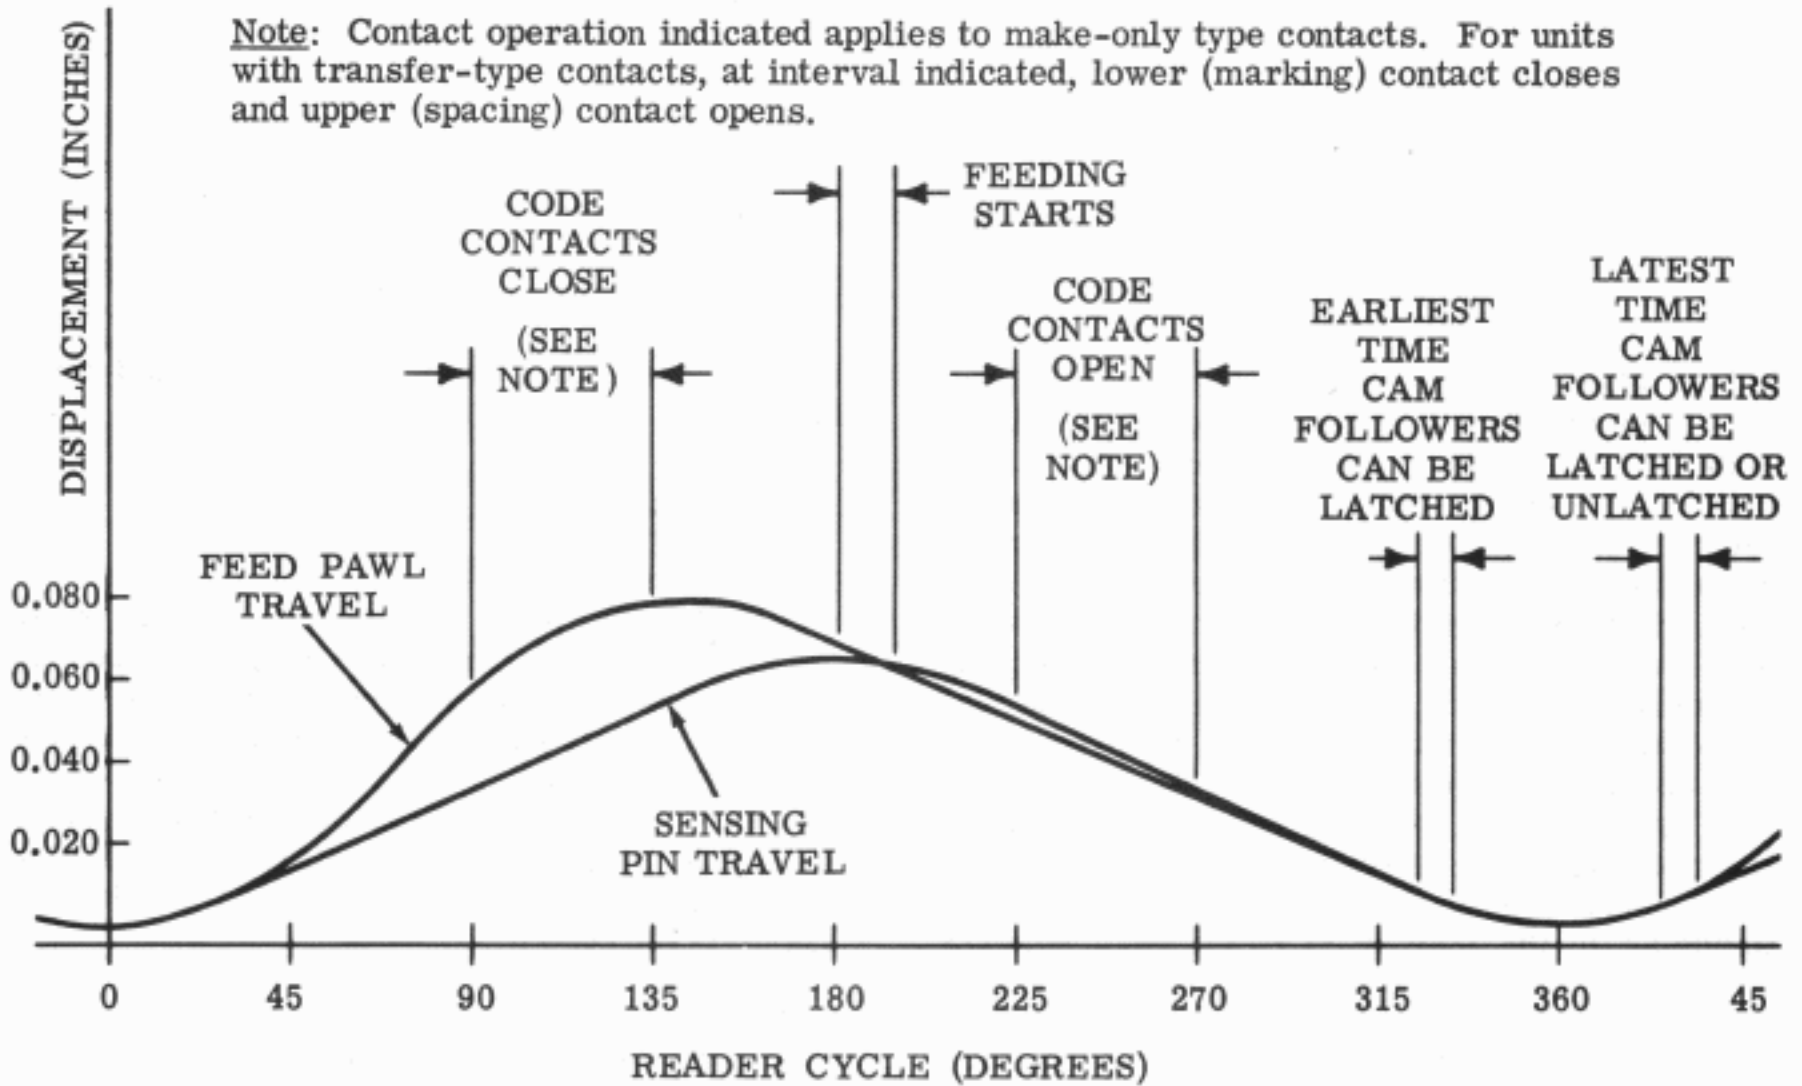

Figure 16 - Timing Diagram
2.03 The method of control depends on the application and may be either based on electrical timing signals generated by the reader or by external means. Readers not equipped with a magnetic pickup mechanism depend on external circuits for timing (Figure 16).
3.17 Feed pawl and sensing pin travel are plotted against degrees of shaft rotation in Figure 16. The lowermost position of the sensing pin is designated as 0 degrees of shaft rotation.